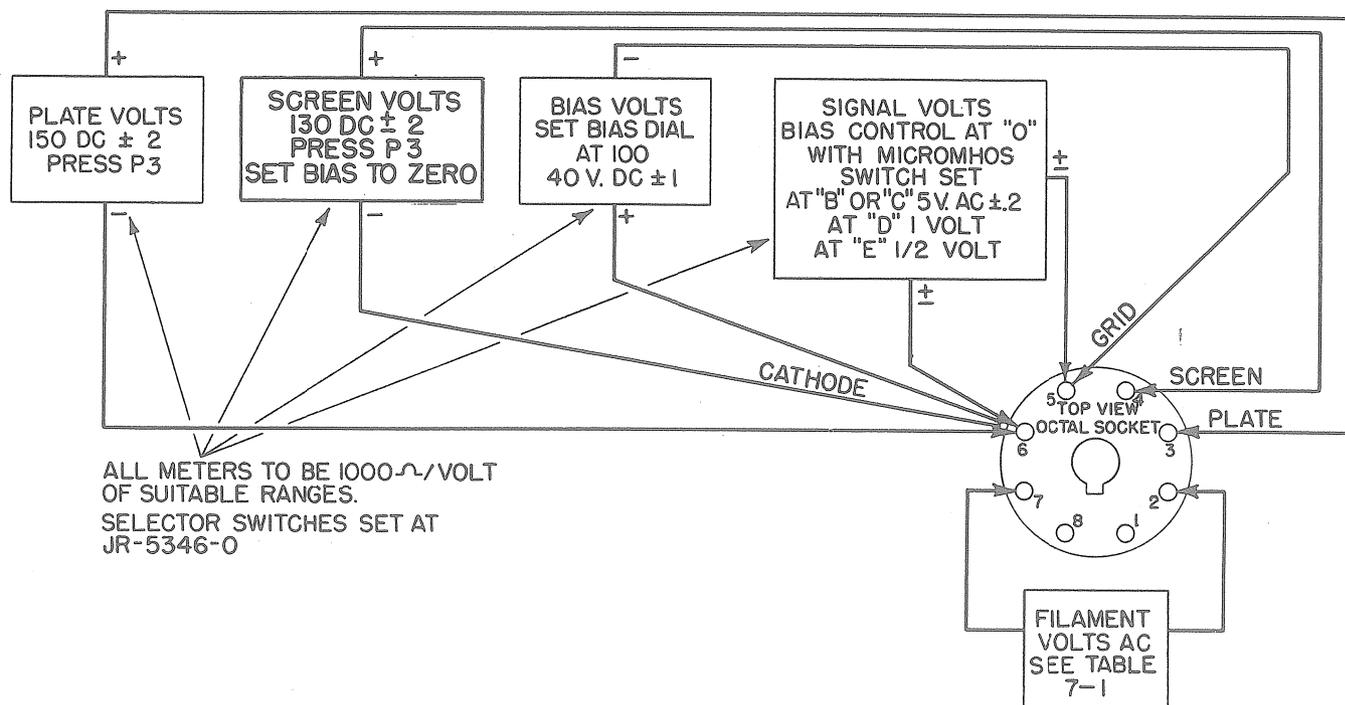

Figure 7-1. Voltage Calibration Check Diagram
Voltage tests must be made with an external multimeter, or individual meters of 1000 ohms per volt sensitivity having suitable ranges of ac and dc connected as illustrated by Figure 7-1. The Multimeter section of the TV-3C/U cannot be used for these tests. If the voltages are not in accordance with the following paragraphs 7a(2) through 7a(6), refer to paragraph 8 and Table 7-2 of this section for probable causes.
(2) PLATE VOLTAGE CHECK (150 vdc.)
- (a) Connect the positive (+) terminal of the voltmeter to contact No. 3 of the OCTAL test socket, X-108, and the negative (-) terminal to contact No. 6 of the same socket. (See figure 7-1.)
(3) SCREEN VOLTAGE CHECK (130 vdc.)
- (a) Connect the positive (+) terminal of the voltmeter to contact No. 4 of the OCTAL test socket, X-108, and the negative (-) terminal to contact No. 6. Set BIAS control to zero. (See figure 7-1.)
- (4) BIAS VOLTAGE CHECK (40 vdc.)
- (b) Connect the positive (+) terminal of the voltmeter to contact No. 6 of the OCTAL test socket X-108 and the negative (-) terminal to the No. 5 contact. (See figure 7-1.)
- (5) SIGNAL VOLTAGE CHECK (0.5, 1, and 5 vac.)
- (b) Connect the terminals of the ac voltmeter to contacts 5 and 6 of the OCTAL test socket X-108. (See figure 7-1.)
- (6) FILAMENT VOLTAGE CHECK (1.1 to 117 vac.)
- (7) BIAS control and SHUNT control should indicate zero when they are in full counter-clockwise positions. If they do not, loosen the set screws and reset the dials on the shafts.
- (1) Turn on the equipment and set all controls in accordance with paragraph 7a(1) of this section.
- (2) Connect a voltmeter between pins 5 and 6 of OCTAL socket X-108 as illustrated by figure 7-1.
- (3) Set BIAS control R-165 at 100.
- (4) Adjust slider "A" of R-166 until the meter reads 40 volts dc.
- (5) Connect a voltmeter between pins 4 and 6 of OCTAL socket as in figure 7-1.
- (6) Press buttons P3 and P2 and adjust slider "B" of R-166 until the meter reads 56 volts dc.
- (7) Tighten the slider screws and recheck the voltages.